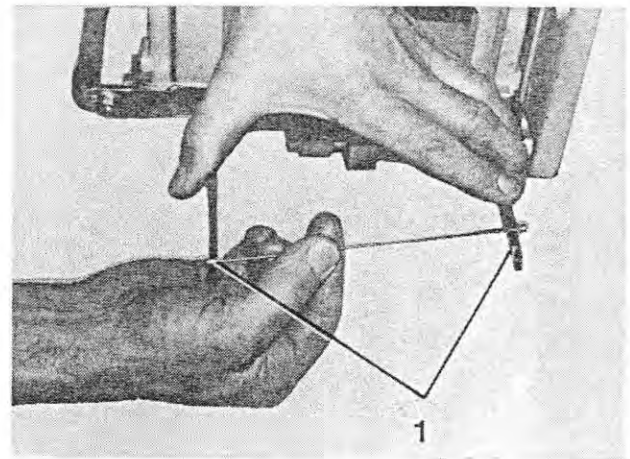

Fig. 268
1. Refer to section 6.6, items 7...9. for removing the die.
2. Press the cutter bow (Figure 268/1) somewhat together and remove the cutting wire.